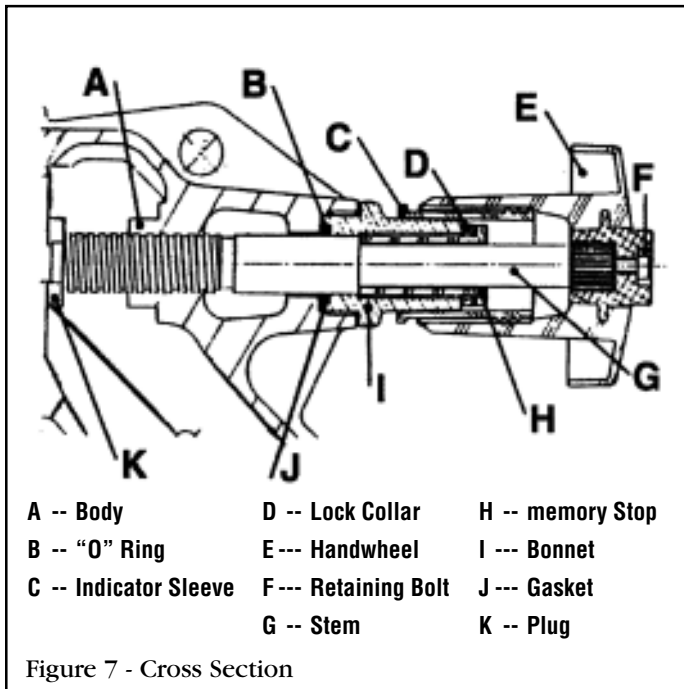

Figure 7 - Cross Section
5.0 Memory Setting (Figure 7) 2½" - 6" Valves
6.0 MEMORY-SETTING (Figure 7) 8" Valves and Larger